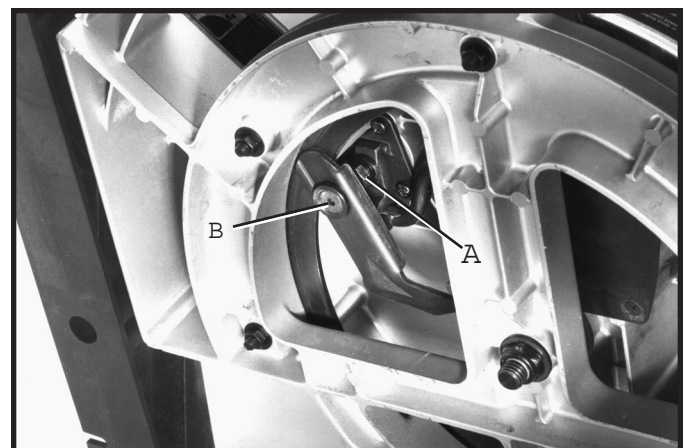

Fig. 19
1. Loosen locknut (A) Fig. 19, using open end wrench supplied. Turn screw (B) with allen wrench supplied. Turn screw clockwise to increase or counterclockwise to decrease clamping action of locking lever. IMPORTANT: After adjustment is completed tighten locknut (A), just enough to take all play out of the handle assembly. Tightening locknut (A) too much will defeat the purpose of the adjustment.